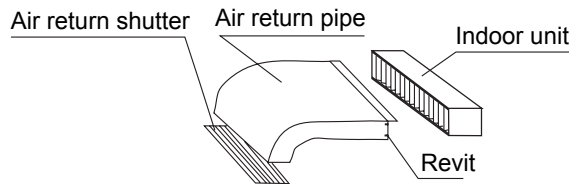

Fig.1
2.Installation of the air return duct: Connect one side of the air return duct to the air return of the indoor units with rivets, with the other side connected to air return shutter, as shown in Fig. 1.